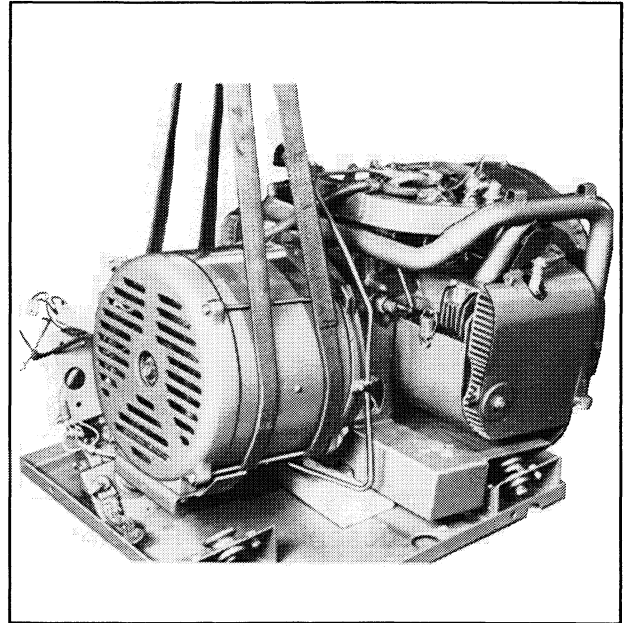

Figure 8-7. Hoisting Generator Set
14. With lifting strap positioned around stator, use a hoist to raise generator end. Place a wood block under generator adapter and lower generator until generator is supported by block. Figure 8-7.